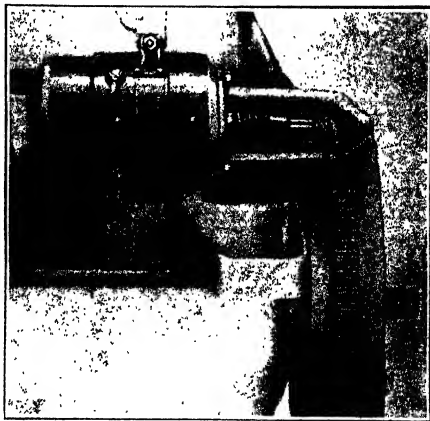

Fig. 165. Automatic Engagement and Release of Starting Motor, Overland Engine
**Automatic Engagement.** *Auto-Lite Type.* Fig. 165 illustrates an improvement on the foregoing method, which eliminates the necessity of mechanically engaging the starting pinion with the flywheel. This is an Auto-Lite generator on an Overland six motor. In starting, the depression of the pedal cuts in a resistance in the same manner, at first, as it would not only be unsafe to send the full strength of the current through the motor before it picked up the load, but it would also be impossible to mesh the pinion at full speed. In this starting motor, the pinion is cut on a sleeve surrounding the armature shaft of the motor, and this sleeve is normally held out of engagement by the spring shown.